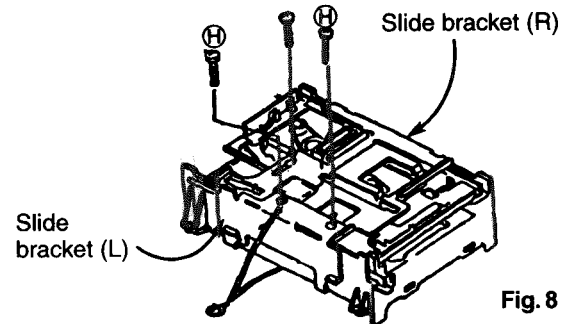

Fig. 8
(See Fig. 8)
2. Remove both of the slide brackets (L) and (R). (See Fig. 8)